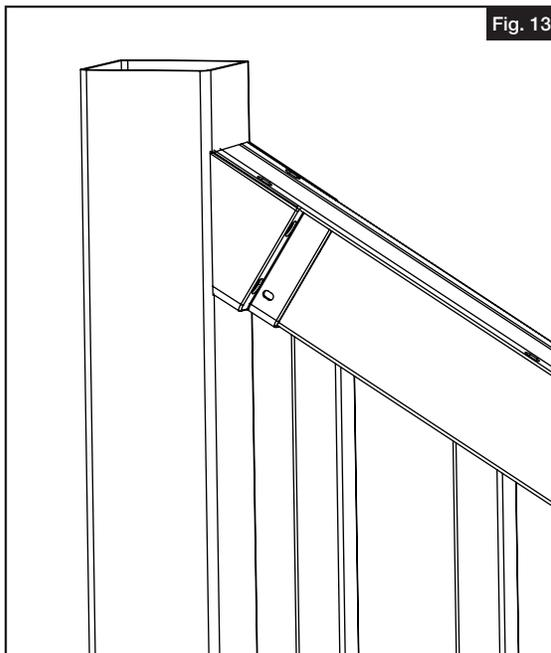

Fig. 13
- a. Slide handrail bracket over ends of railing (Fig. 13). Measure angle required and cut bracket and rail (and aluminum channel) to that angle.